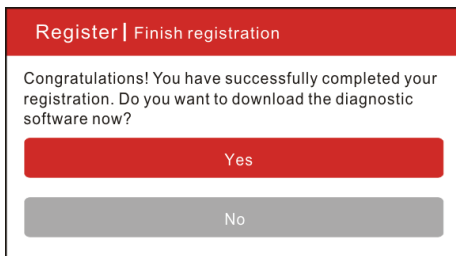

Fig. 4-6
C. Download diagnostic software: Tap “Activate”, a dialog box similar to Fig. 4-6 will appear: